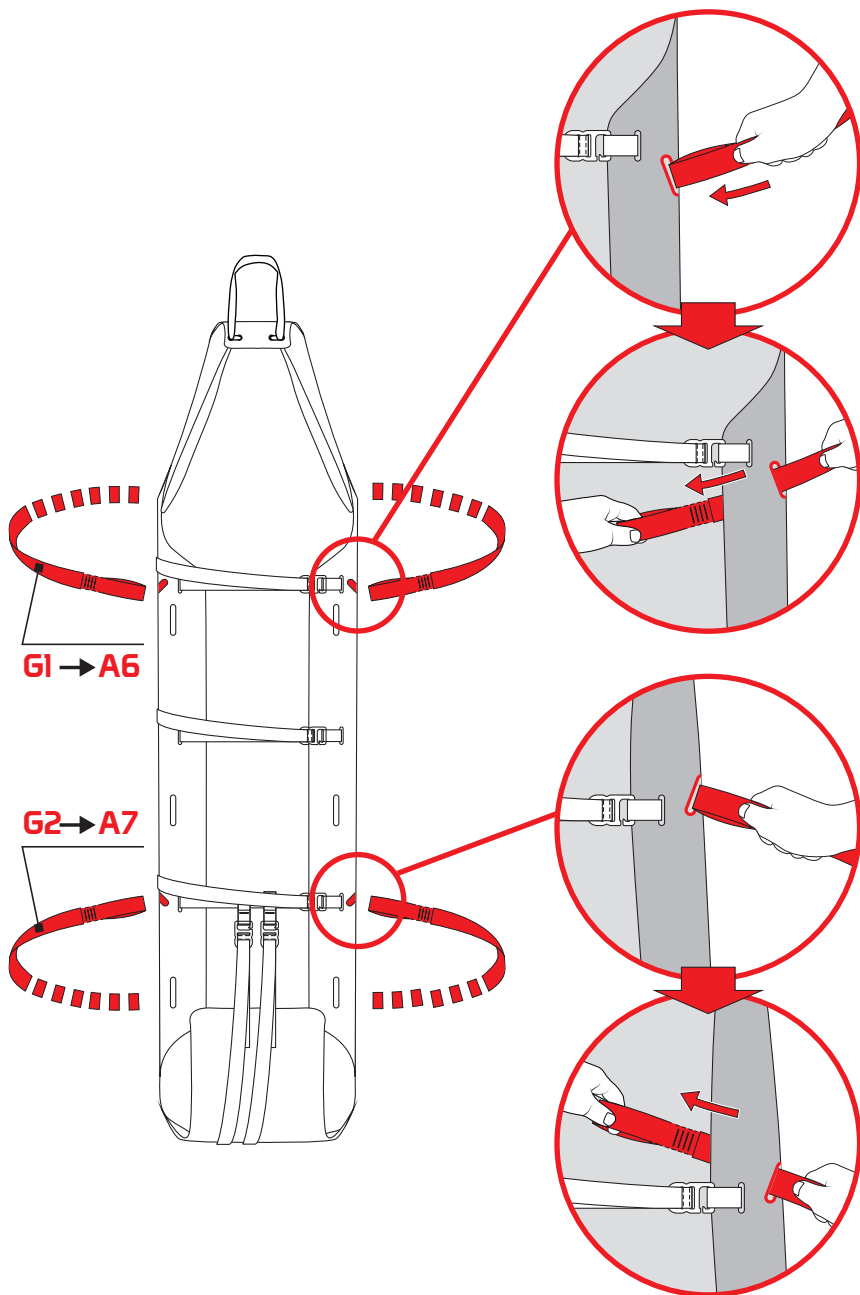

Fig.15
b) lifting/lowering and/or transportation using the lifting kit (G): insert the short hanging kit (G1) in the eyelets A6 and the long hanging kit (G2) in the eyelets A7 on the support surface (fig. 15).